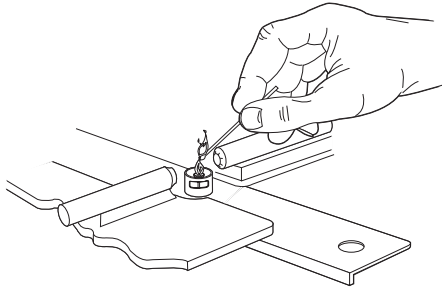

Figure 12
4. Light two top pilots with match as shown in figure 12.